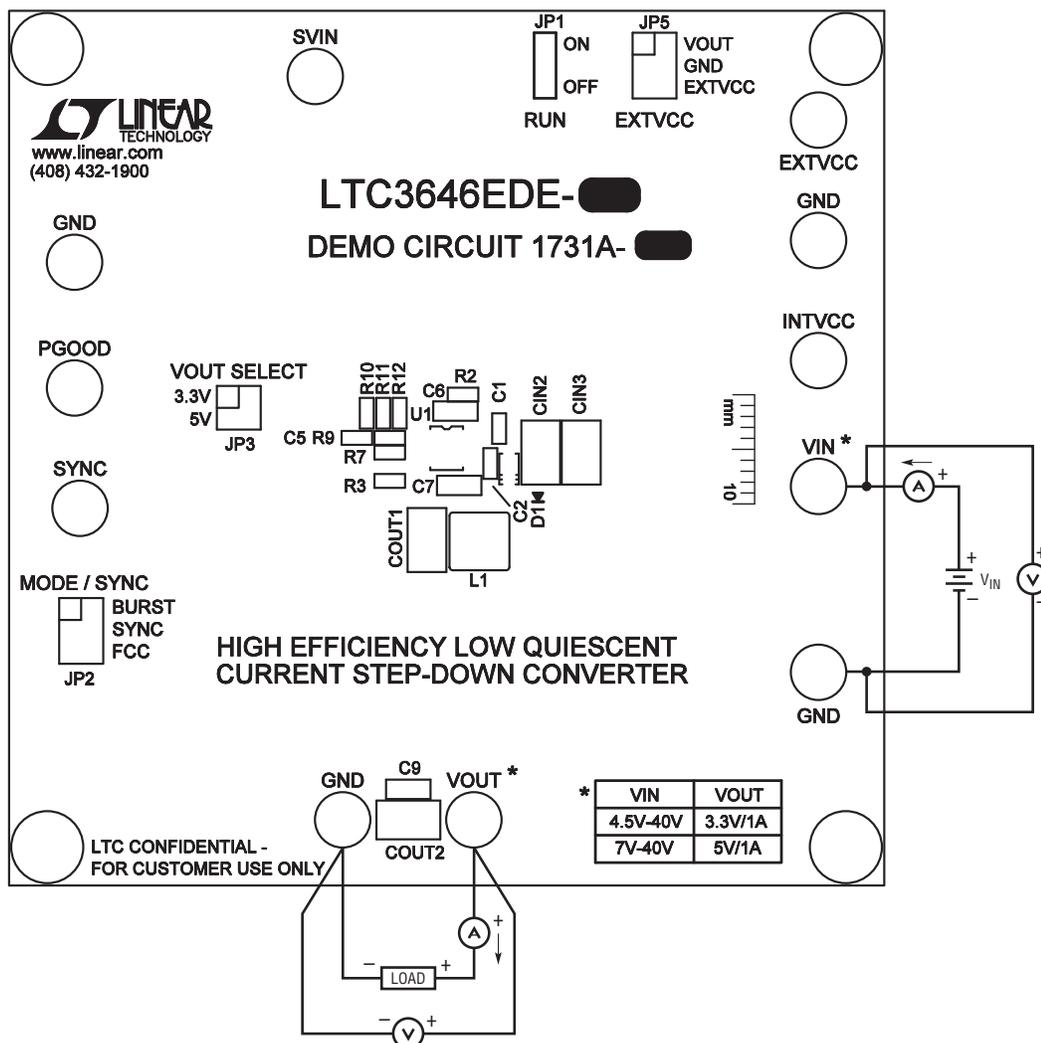

Figure 1. Proper Measurement Equipment Setup
Demonstration circuit 1731A is an easy way to evaluate the performance of the LTC3646/LTC3646-1. Please refer to Figure 1 for proper measurement equipment setup and follow the procedure below:
- With power off, connect the input power supply, load and meters as shown in Figure 1. Preset the load to 0A and V_{IN} supply to be 0V.